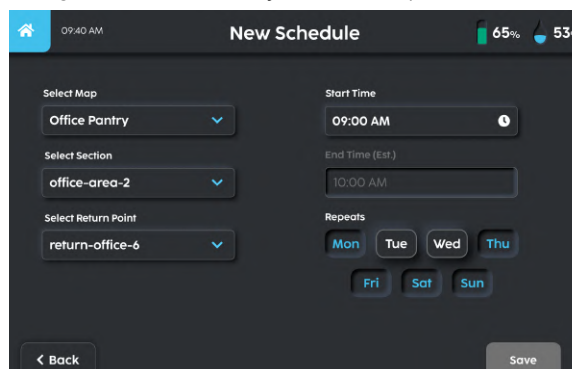

FIGURE 6-28
2. Click click 'Select Map' to choose a map to clean for this schedule (**Fig. 6-28**). Note that SC25 needs to have a map to create a cleaning schedule. To create a map, refer to 'ADD/CREATE NEW MAP'.